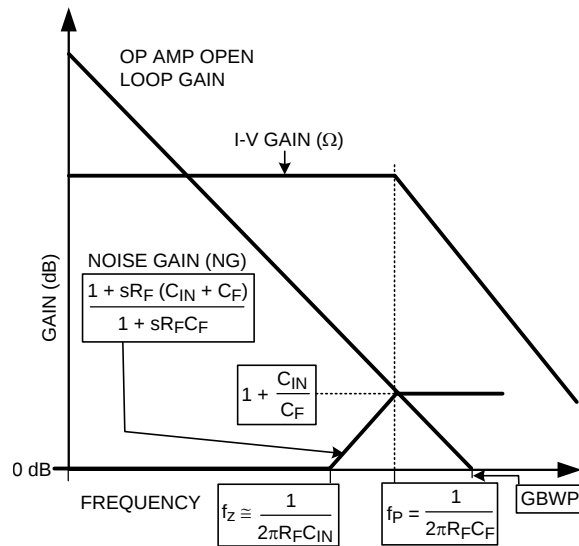

Figure 64.
Figure 64 shows the Noise Gain (NG) and transfer function (I-V Gain). As with most Transimpedance amplifiers, it is required to compensate for the additional phase lag (Noise Gain zero at f_z) created by the total input capacitance (C_D (diode capacitance) + C_{CM} (LMH6629 input capacitance)) looking into R_F ; this is accomplished by placing C_F across R_F to create enough phase lead (Noise Gain pole at f_p) to stabilize the loop.